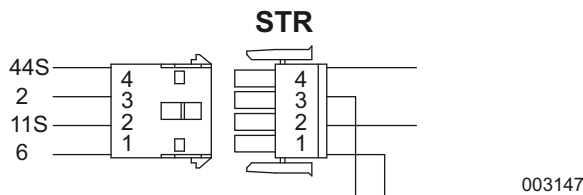
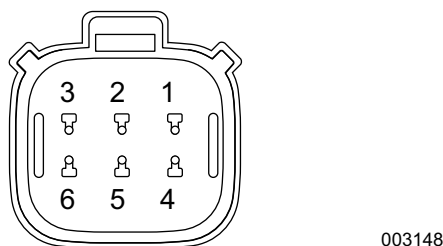

Figure 2-13. Stator Connector (STR) Pin Locations (if unit is equipped)
Figure 2-14. C1 Bulkhead Connector Pin Locations (if unit is equipped)
6. See Figure 2-13 and Figure 2-14. Disconnect the lower bulkhead C1 connector (if unit is equipped). On Evolution units locate the STR connector and disconnect.